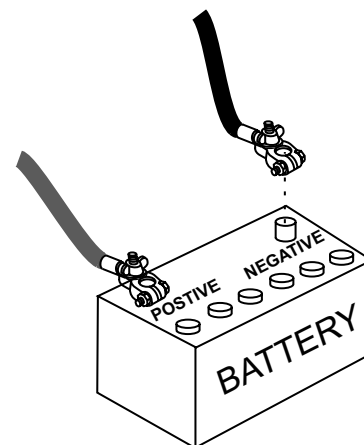

Figure 46. Battery Connections
3. Connect the negative battery cable (BLACK) to the negative post on the battery (Figure 46).